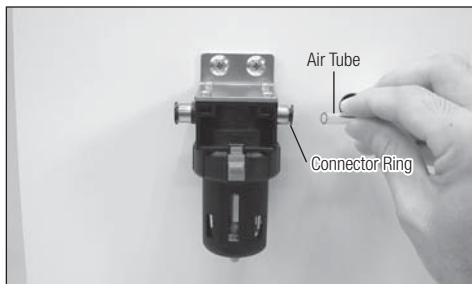

Fig. 25
- 1) Pull out the Air Tube while pressing the Connector Ring. (Fig. 25)